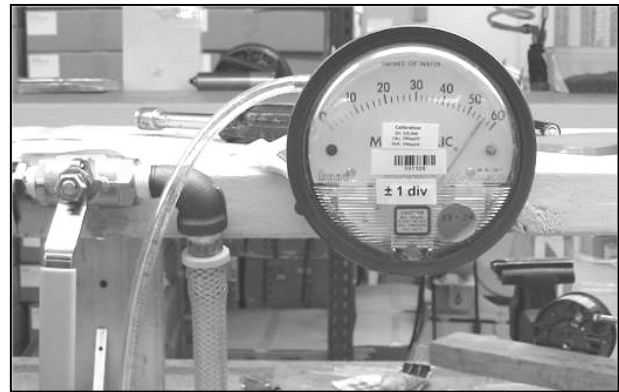

Figure 36. Magnehelic Gauge Connection to Hose Barb
3. Apply compressed air, wait for air to exit the hose barb in the test port, and then connect the Magnehelic gauge (Figure 36) to the hose barb using the vacuum hose or vinyl tubing. This prevents the gauge from reading maximum pressure due to the large velocity of compressed air entering the primary chamber.
- Install the tamper proof cap on the idle mixture screw adjustment port using a large pin punch, so that no further adjustments can be made (Figure 36).